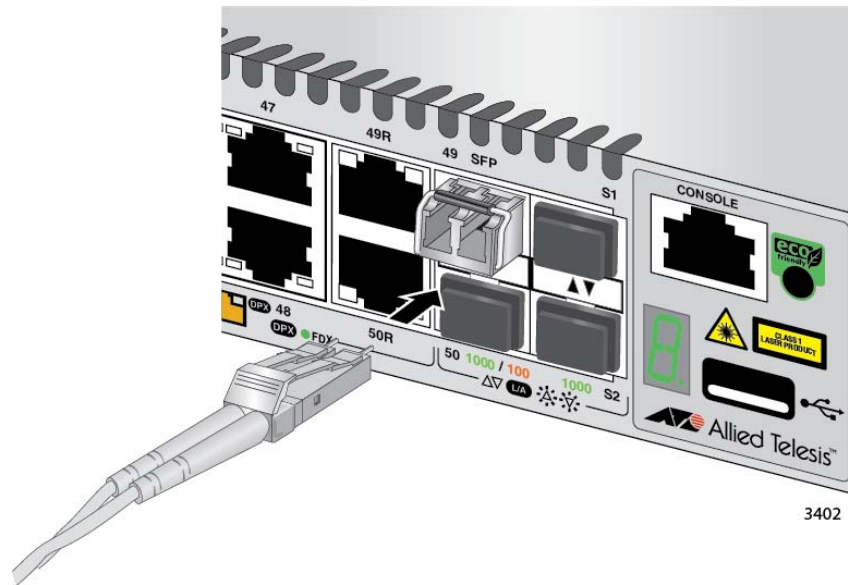

Figure 56. Connecting a Fiber Optic Cable to an SFP Transceiver
7. Connect the fiber optic cable to the transceiver, as shown in Figure 56. The connector on the cable should fit snugly into the port, and the tab should lock the connector into place.